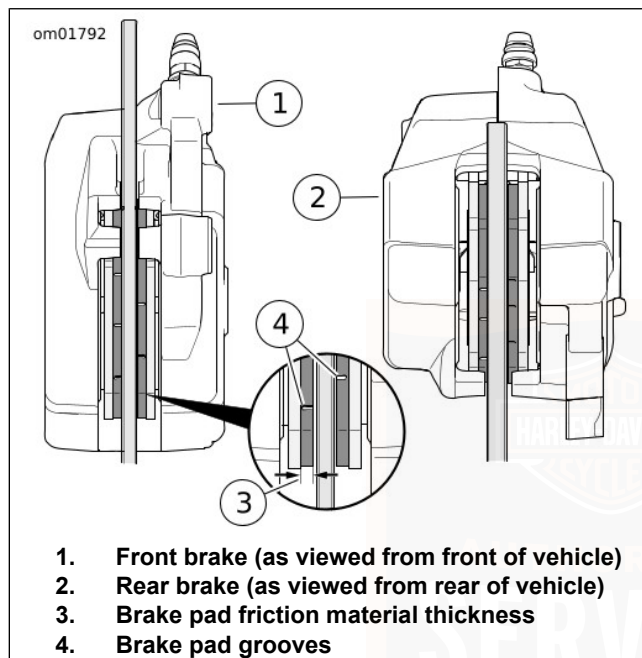

Figure 80. Brake Pad Friction Material
1. See Figure 80. Check the brake disc as it spins. The disc should run true in the brake caliper.